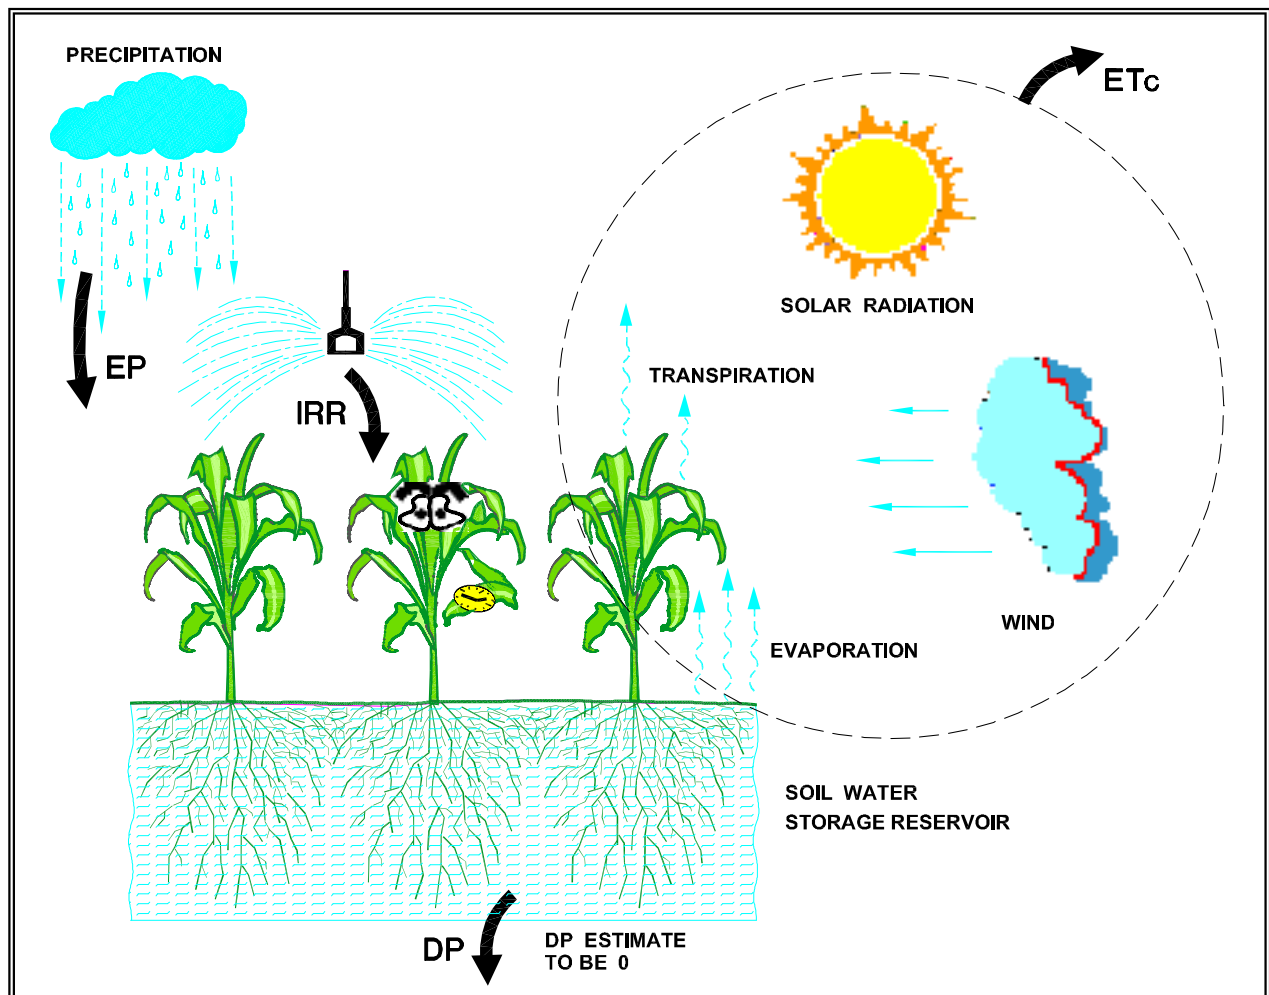

Figure 1 Crop Water Balance
Using a water budget to schedule sprinkler irrigation systems is similar to balancing a chequebook. The plant's soil water storage reservoir can be considered as a bank. This reservoir can hold a limited amount of water that is useful for the crop. Adding too much water to the soil reservoir will mean water loss due to deep percolation (DP) and/or runoff. The crop evapotranspiration (ET_c), or the crop water use, is the crop's daily water withdrawal. Irrigation (IRR) and effective precipitation (EP) are deposits. This water budget method works well with a computer spreadsheet that allows the daily reference ET (ET_o), precipitation and irrigation amounts to be accounted for irrigation scheduling. Figure 1 below shows the schematics of the water budget method for scheduling sprinkler irrigation.